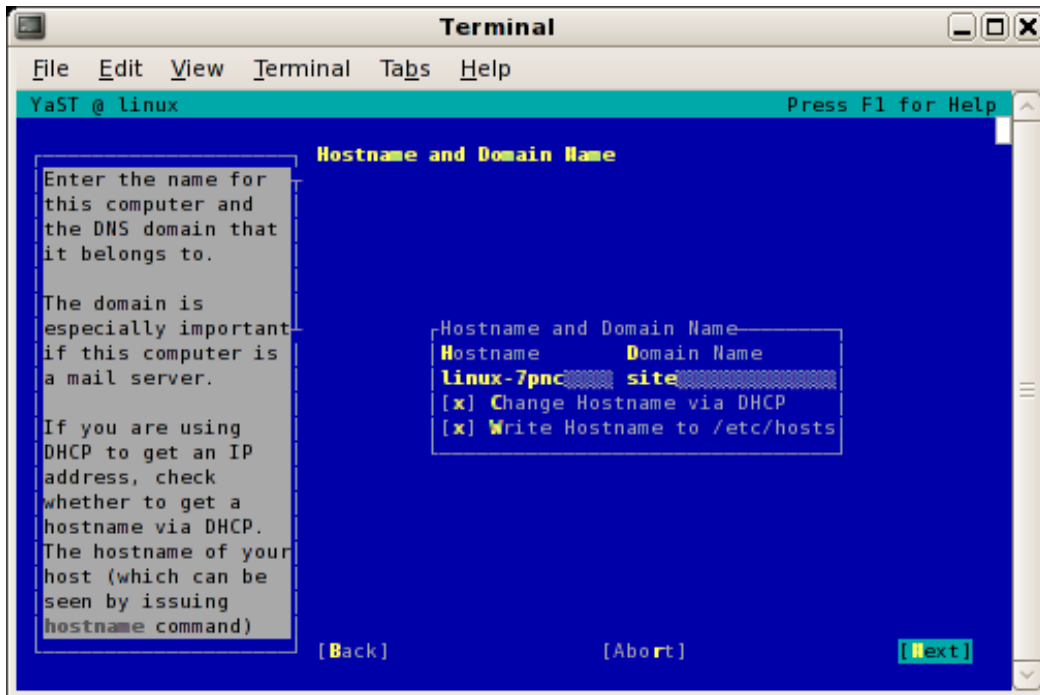

Figure 2-3 Hostname and Name Server Configuration Screen
7. From the **Hostname and Name Server Configuration** screen, as shown in Figure 2-3 on page 31, enter the hostname and domain name of your system in the